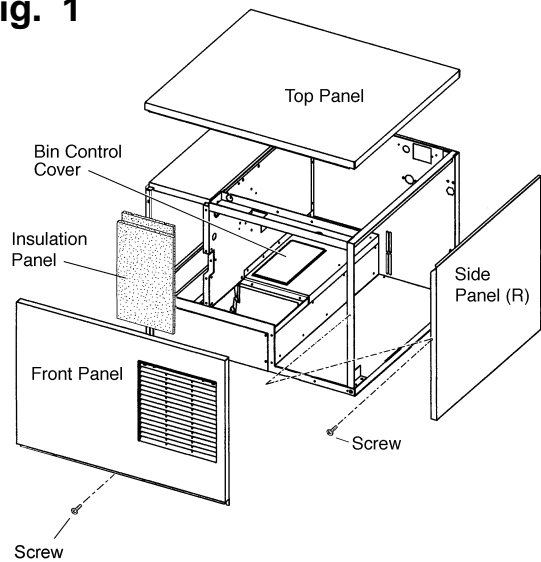

Fig. 1
- a) Remove the Bin Control Cover (See Fig. 1) to access the Bin Switch assembly.
2. HOW TO REMOVE PANELS - See Fig. 1